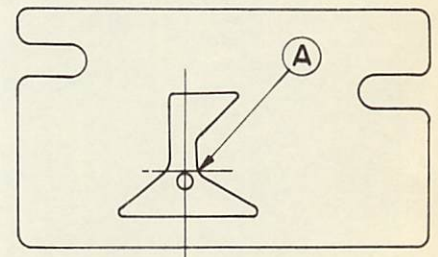

Fig.3
- \* Fore aft position.....Rear end of needle should jibe with the angle (A) (Fig.3)